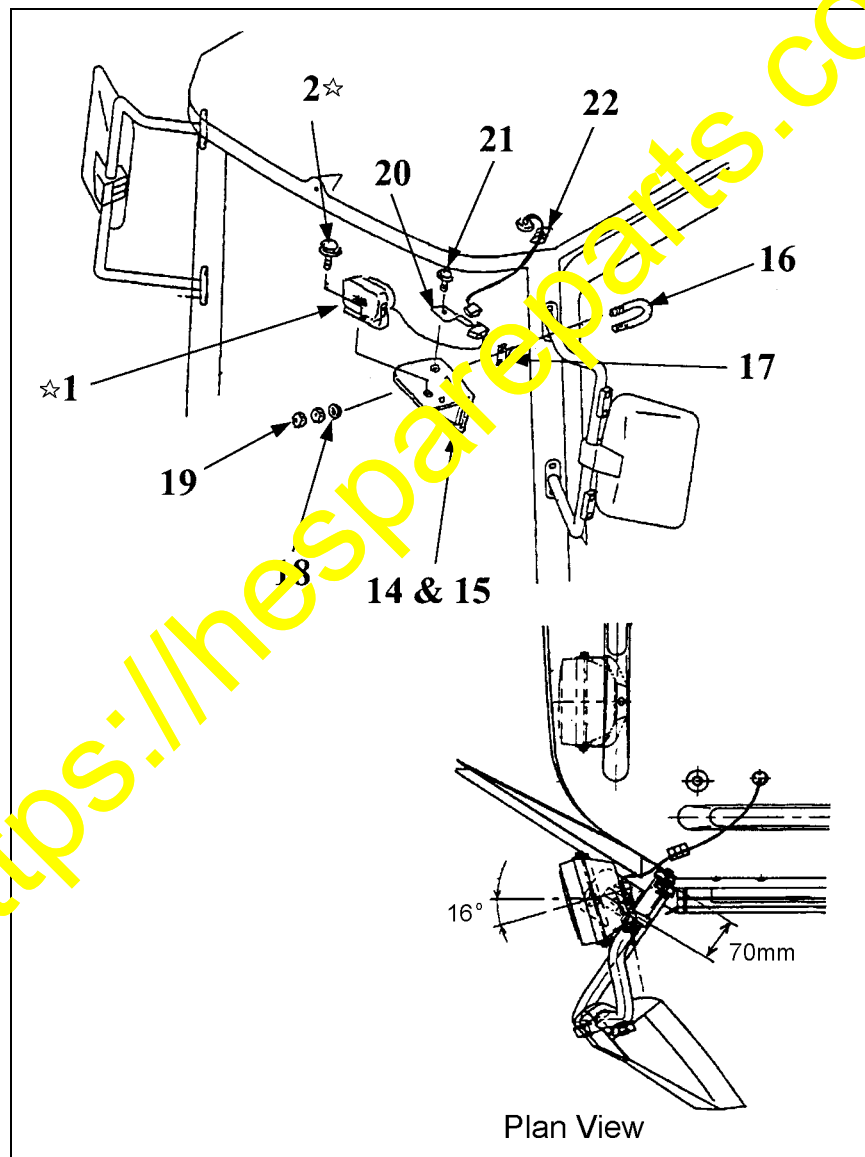

Figure 4
6. Using u-bolt (16) and seat (17), attach brackets (14,15) to the upper arm of the mirror stay with washer (18) and nuts (19).
7. Using bolt (2), install worklamp (1) on bracket and tighten to KES standards.
8. Using bolt (21), install clip (20) on bracket.
9. Connect wiring harness and attach to clip (20).
10. Using clip (22), secure wire harness to cab.
11. As shown in the plan view in Figure 4, adjust the worklamp away from the windshield to prevent interior glare.
NOTE: Figure 4 shows the left-hand side of the cab. Follow the same procedure for the right-hand side.